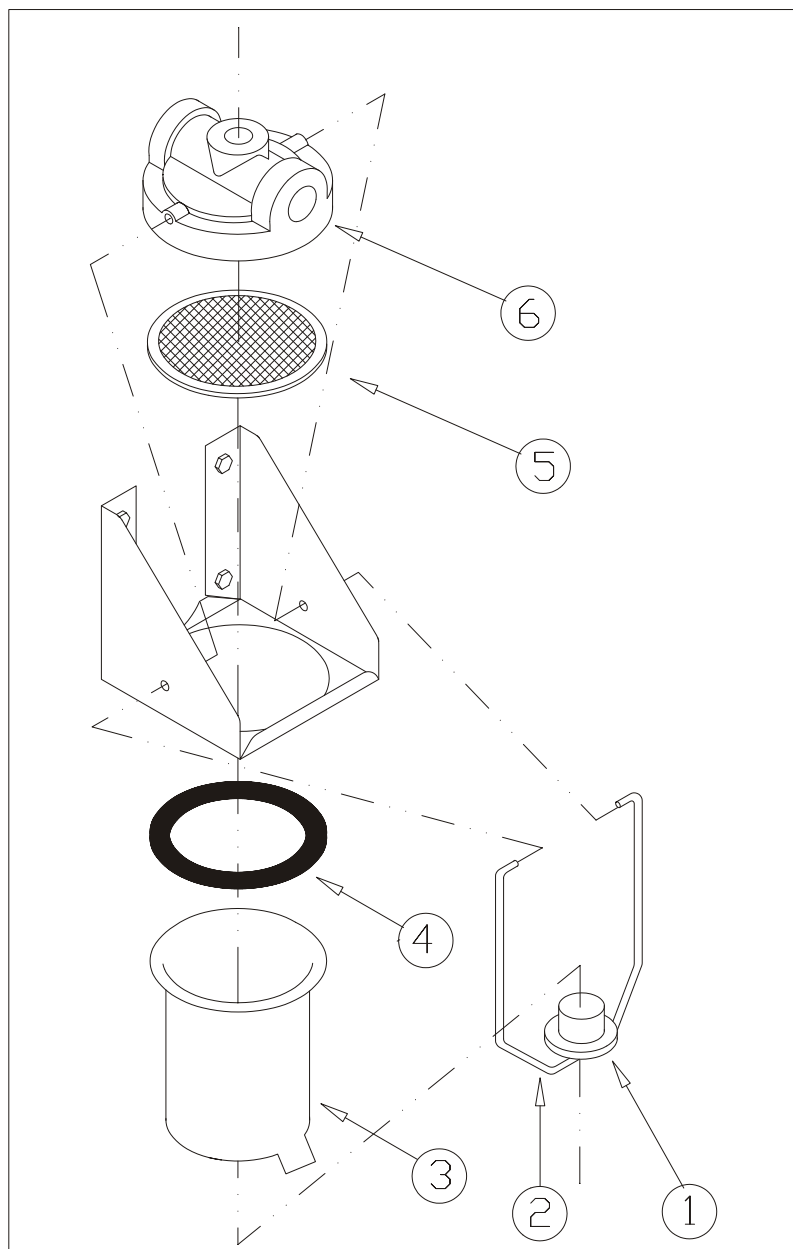

Figure 10 Gascolator Removal/Installation
- 3 Loosen the knurled nut (1, Figure 10).
- 4 Remove the mounting bracket (2).
- 5 Remove the fuel reservoir (3) and the sealing ring (4).
- 6 Remove the strainer (5) and the gascolator cover (6).